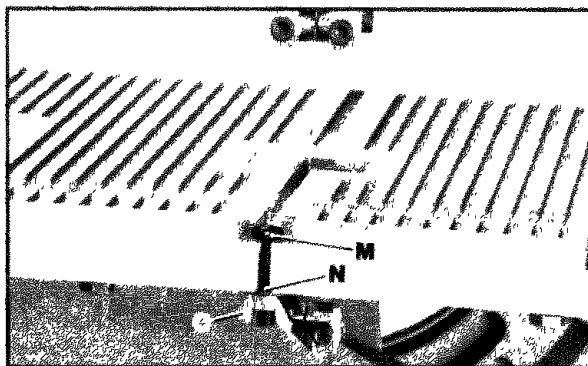

Fig. 7
7. Assemble the table alignment screw (M - Fig. 7), washer (N) and wing nut (O) to the table as shown.